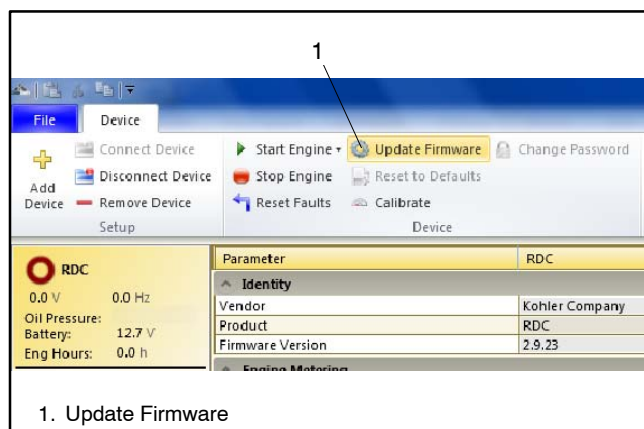

Figure 3-16 Update Firmware Command
5. Click on Update Firmware near the top of the screen. See Figure 3-16.